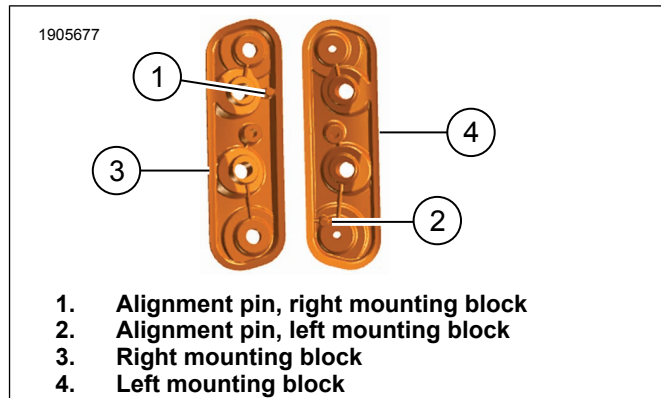

Figure 3. Right / Left Mounting Block Alignment Pin Locations
1. Figure 3 Install **new** mounting blocks to cover.